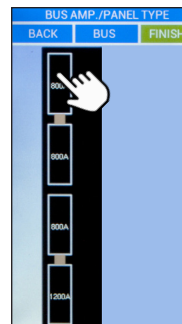

Figure 58. Panel Ampacity
- Step 7.** Tap the distribution panel icons to change ampacity between 800A and 1200A as needed (see Figure 58).